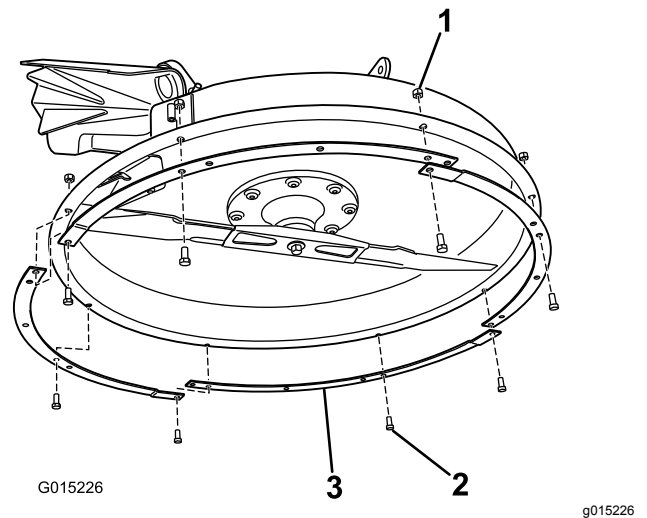

Figure 24
- Install the interlocking deck rings to the bottom of the mower deck (Figure 24).